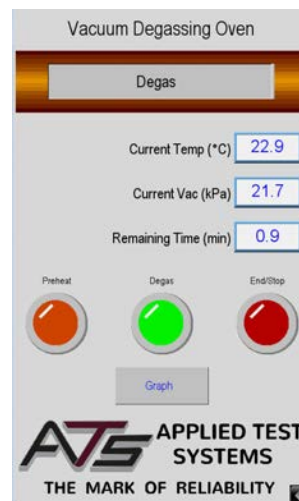

Figure F.11 - Degas
7. After the programmed soak period, the vacuum pump will automatically turn on, and the display will read “Degas” (Figure F.11). The specimen will degas for the programmed amount of time.
2. From the View Screen, press the “Data” button to display test dates and information. The right hand side of the screen will have specific tests listed by date. See Figure F.11. Note that the “Graph” button has no function during this stage of testing.